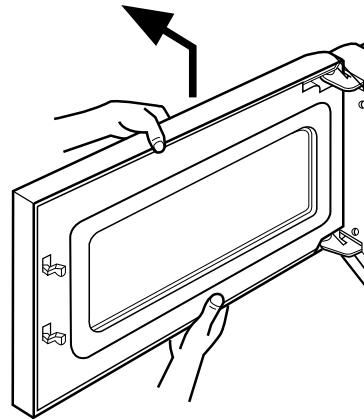

Figure 15-a
G. DISASSEMBLING DOOR (Figure 15-b)
- (1) Remove the dielectric choke by using knife blade or small screw driver, etc.
- (2) Remove two screws securing it to the door handle.